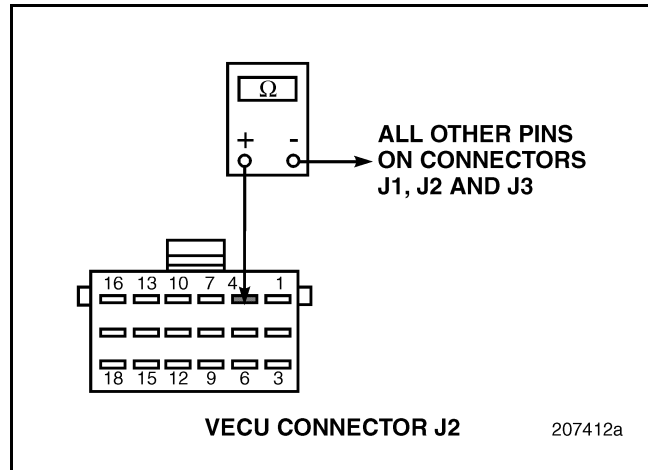

Figure 258
4. Check for continuity between Vehicle Electronic Control Unit (VECU) connector J2 pin 4 and all other pins in connectors J1, J2, and J3 (see Figure 258).